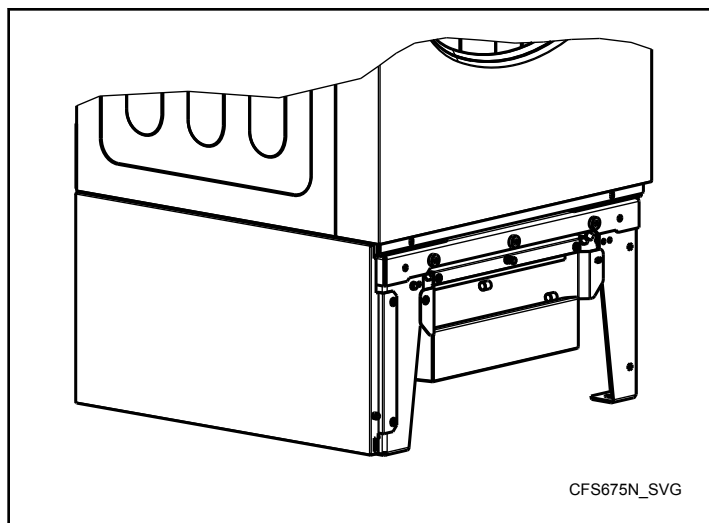

Figure 57
2. Remove the front cover of the filter base frame. Refer to *Figure 57*.